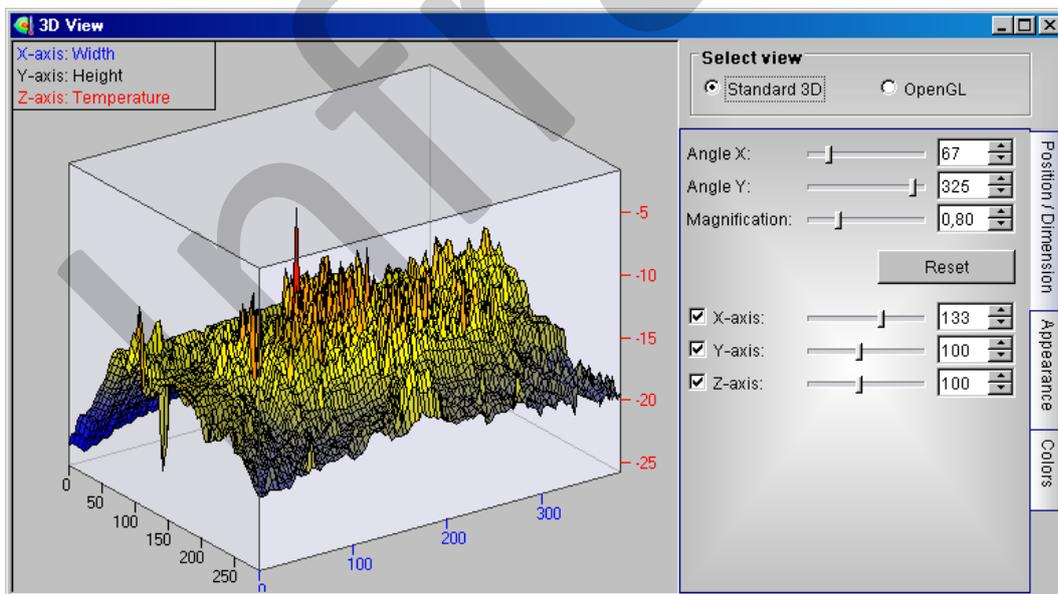

Fig. 82 3D view of a thermal image
Certain parts of the audio comments' tone curve can be selected by holding the left mouse button, and moving the selected part with the mouse pointer (see fig. 82). The function **"Delete selection"** deletes the selected part whereas **"Choose selection"** retains it.
- Selected time (selected part of the tone curve, see fig. 82)